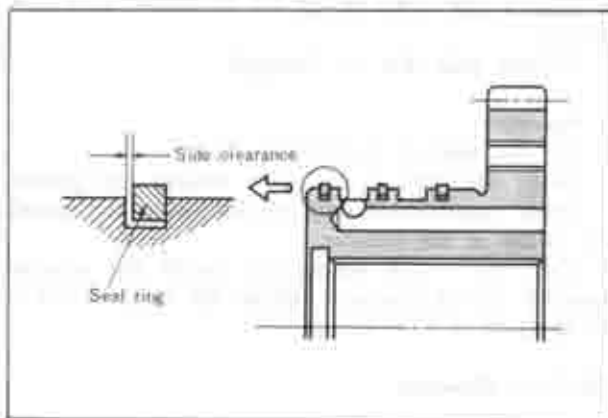

Fig. 7B-40 Clearance of oil seal ring
4. Check the side clearance between the seal ring and groove, as shown in Fig. 7B-40. This clearance should be $0.04 \sim 0.16 \text{ mm}$ ($0.002 \sim 0.006 \text{ in}$). To remove the seal ring, squeeze it up so that its joint will rise above the groove and disconnect the joint.